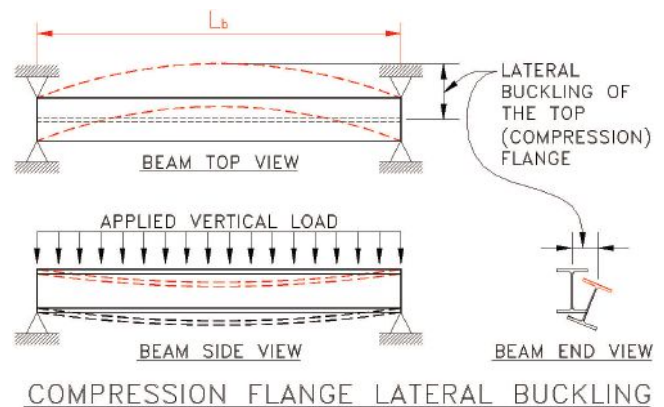

Fig. 4. Lateral-torsional buckling of the compression flange with end support only.
**Beam supported laterally at its ends.** Now consider the compression flange of a laterally unsupported beam as if it was a compression member. If the compression flange were a pure rectangular column, simply supported for both axes, it would buckle in its weakest direction. However, the compression flange is restrained from buckling in its weakest direction, in the vertical plane, by the continuous support of the beam web. Therefore, at higher flexural compression loads, the flange would tend to buckle in its strongest direction, in the horizontal plane, twisting the beam. It is this sudden instability in the lateral direction that is referred to as lateral-torsional buckling (see Figure 4).